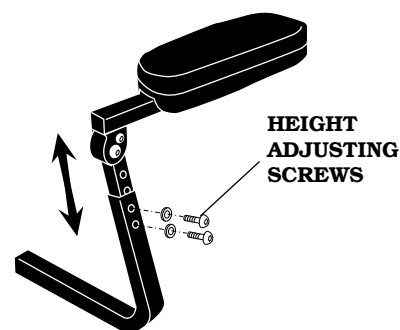

FIGURE 5. ARMREST HEIGHT
1. Use a 5 mm metric Allen wrench* to remove the two screws and washers that hold the armrest in place. See figure 5.